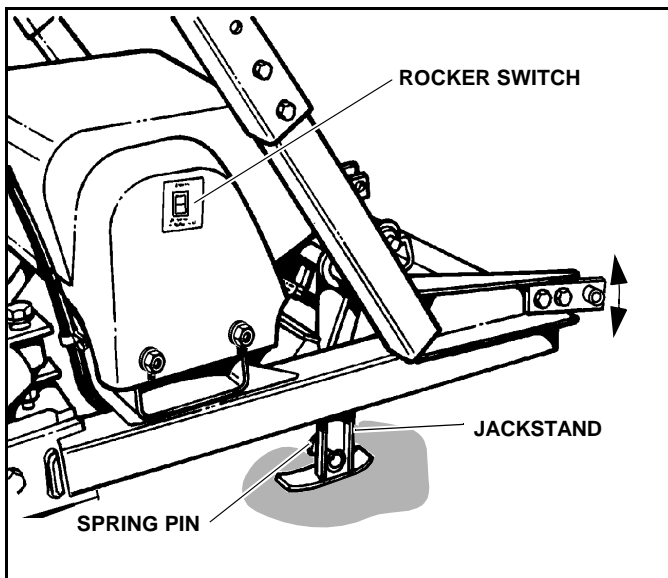

Figure 1-2
7. Raise the rear of the A-Frame (using the Rocker Switch on the pump cover) to ensure that the A-Frame is higher than the Subframe mounting points. The plow can then be manually moved into position for connecting the lower Hitch Pins. Move the plow manually by grasping one end of the blade and moving one side and then the other side. Again, if the plow is more than 3-4 inches from proper alignment, move the vehicle - it's easier. But remember to disconnect the electrical connections BEFORE backing away from the plow to avoid stretching and damaging the electrical Wiring Harness. (See Figure 1-2)
9. After the lower Hitch Pins and Lynch Pins have been installed, place the Rocker Switch in the lower position to allow the Jackstand to be raised off the ground. Then rotate the Jackstand forward and upward and latch it in the transport storage position with the Spring Pin. (See Figure 1-2)